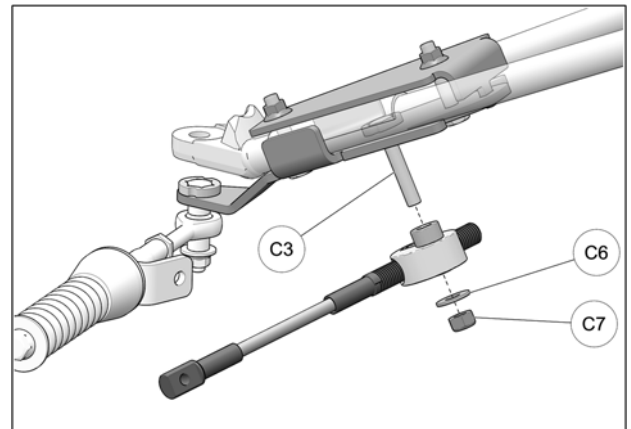

Fig. 22
12. Slip steering limiter cable assembly over bolt (C3) and use washer (C6) and nut (C7) to secure assembly to anchor bracket. Tighten nut to 50 N•m [37 lb•ft]. Refer to Fig. 22